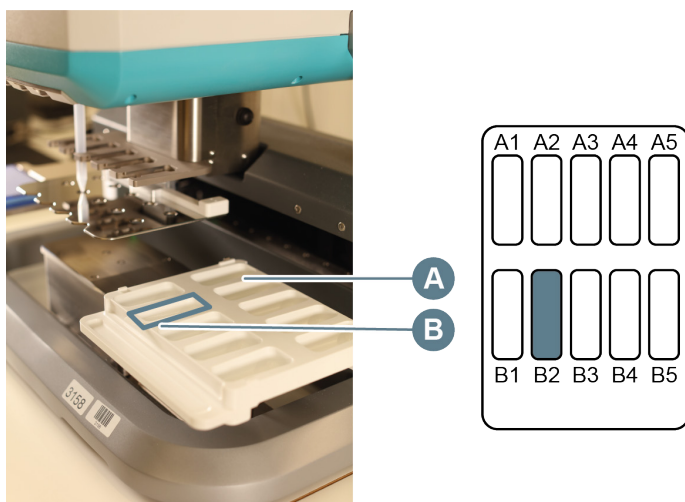

Figure 24. Disposable reservoir in reservoir tray of the Dragonfly.
2. Slide the reservoir tray to the filling position (A) and place a new reservoir in position B2 (B) (*Figure 24*).